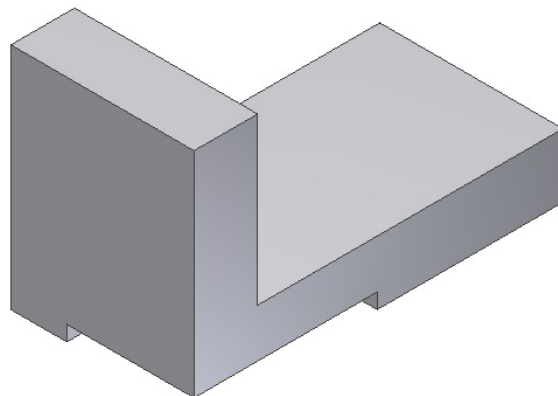

Figure 5-92 Model after creating the cut feature on the front face
1. Extrude the profile defined by the rectangle to a distance of 50 mm using the **Cut** operation. The isometric view of the model with the cut feature is shown in Figure 5-92.